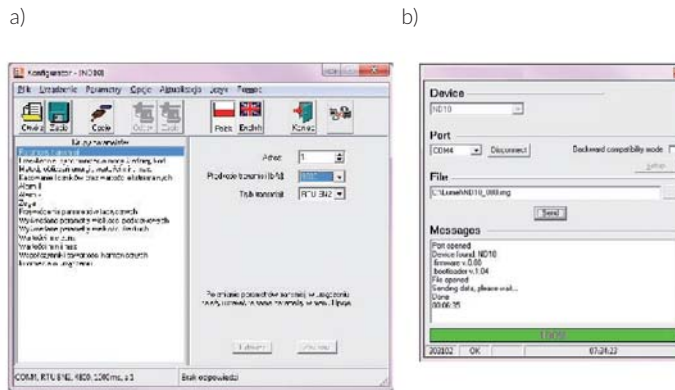

Fig. 10. Program window view: a) LPCon, b) software upgrades
After launching LPCon program, set in Options required serial port, speed, mode and address of the meter. Next, choose ND10 meter from Devices menu and click the Read icon to read all set parameters (required for later recovery). After choosing Device software upgrade option from Upgrade menu a Sifam tinsley Updater window appears (LU) – Fig. 10 b. Press Connect.